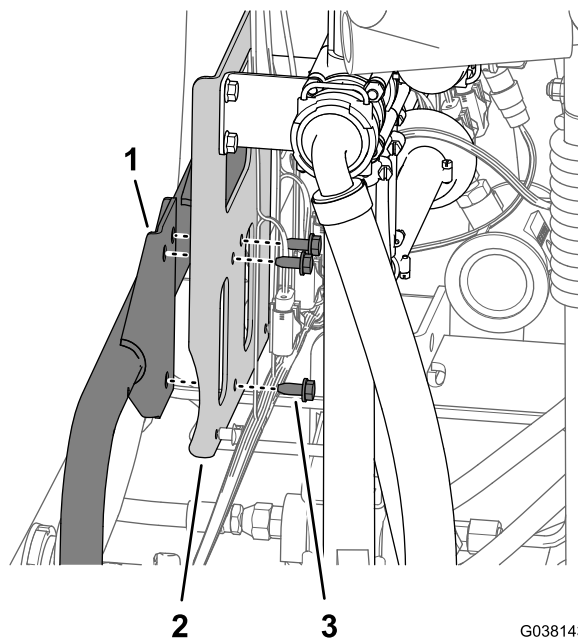

Figure 26
1. While supporting the bracket for the agitation, rate, and master-spray valves, remove the 3 flange-head bolts (5/16 x 3/4 inch) that secure valve bracket to the mount (Figure 26).